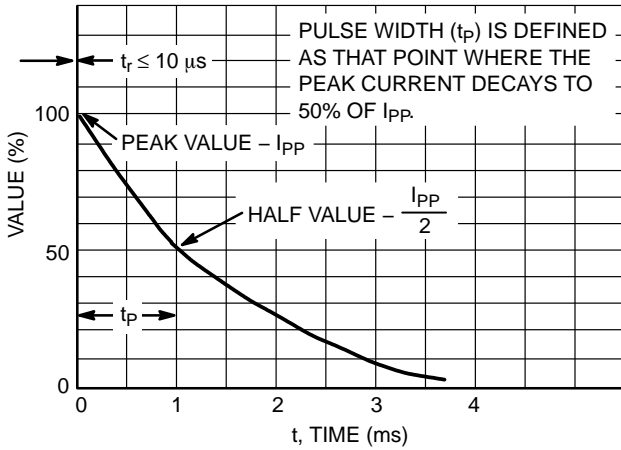
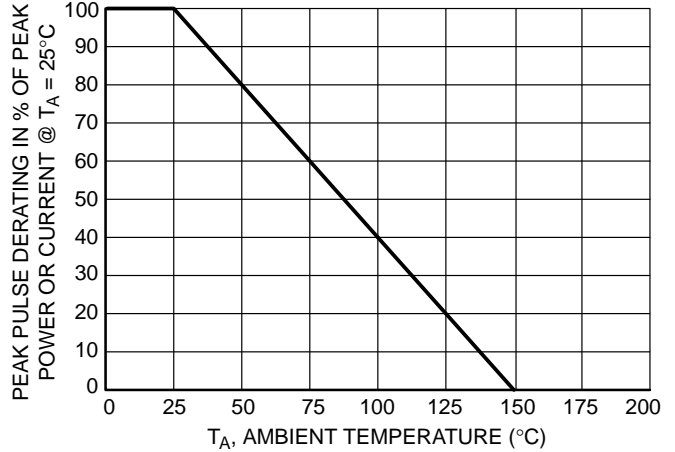

Figure 5. Pulse Waveform
Figure 6. Pulse Derating Curve
- Peak Power – 24 W @ 1.0 ms (Unidirectional), per Figure 5 Waveform
1. Non-repetitive current pulse per Figure 5 and derate above  $T_A = 25^\circ\text{C}$  per Figure 6.
6. Surge current waveform per Figure 5 and derate per Figure 6